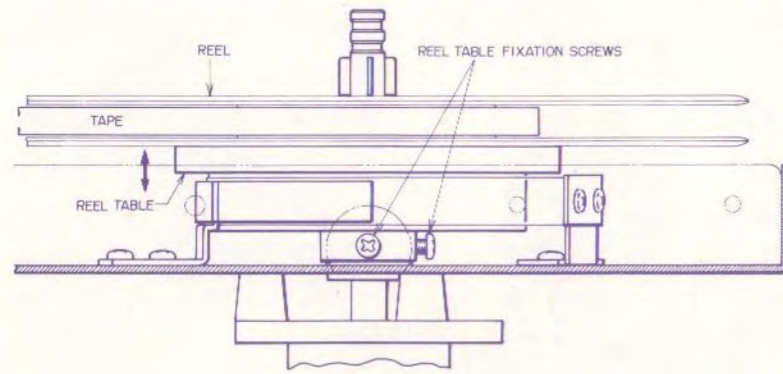

Fig. 4
4. REEL TABLE HEIGHT ADJUSTMENT (Refer to Fig. 4)
Properly load a tape and move the reel table as indicated by the arrow mark in Fig. 4, position so that at F.FWD and RWD modes, the tape winds on the center of the reel. Tighten reel fixation screws to maintain optimum position.